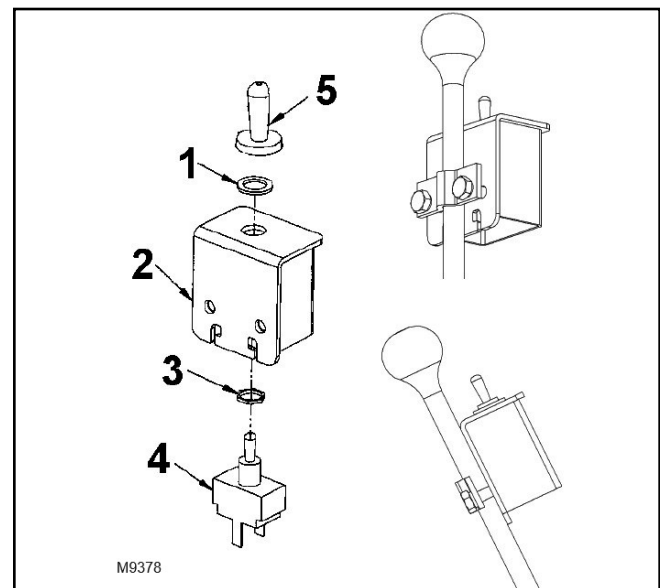

Figure 27. Attach Switch Box
7. Figure 27: Insert the switch (item 4) in the switch box (item 2) and secure with nuts (items 1, 3). Attach the rubber cap (item 5) on the switch.
- Attach the switch box (item 1) on the lever in a convenient position using clamp (item 5) and two 1/4 NC x 3/4" bolts and lockwashers (items 3, 4).